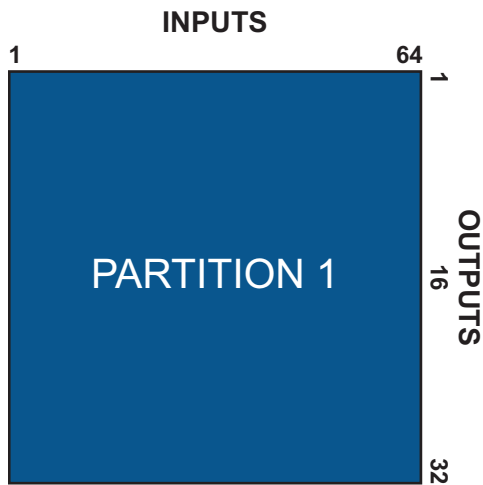
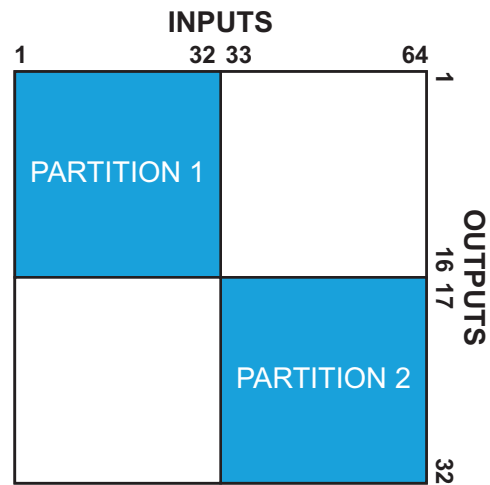

Figure 6 One Audio Mixer — 64x32
Figure 7 Two Audio Mixers — Each 32x16
**Figure 6** is an example of one audio mixer (one license) with 64 stereo inputs (128 channels) and 32 stereo outputs (64 channels). **Figure 7** is an example of partitioning to obtain two smaller independent ULTRIMIX-MXR I/O blocks. Each partition is stereo 32×16.